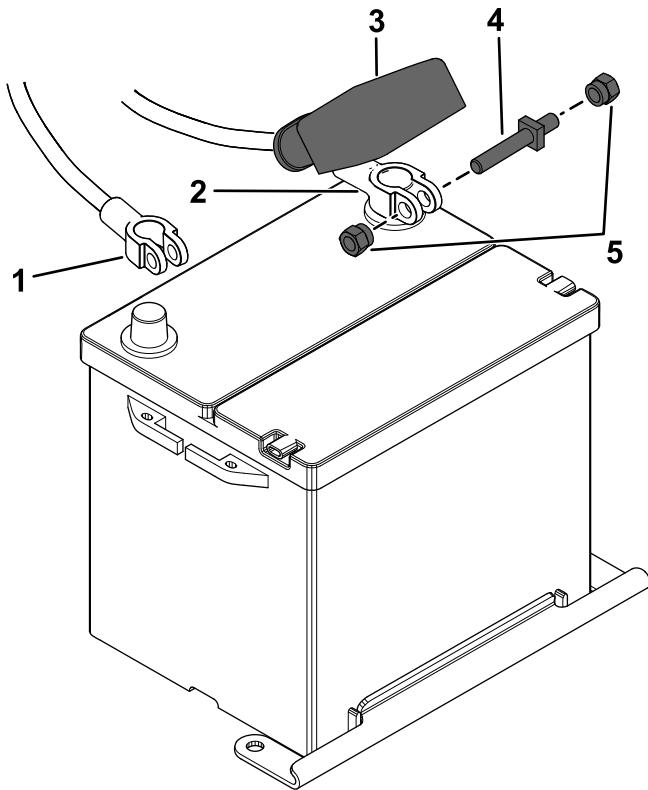

Figure 69
1. Disconnect the battery cables (Figure 69).
2. Connect the battery cables (Figure 69).